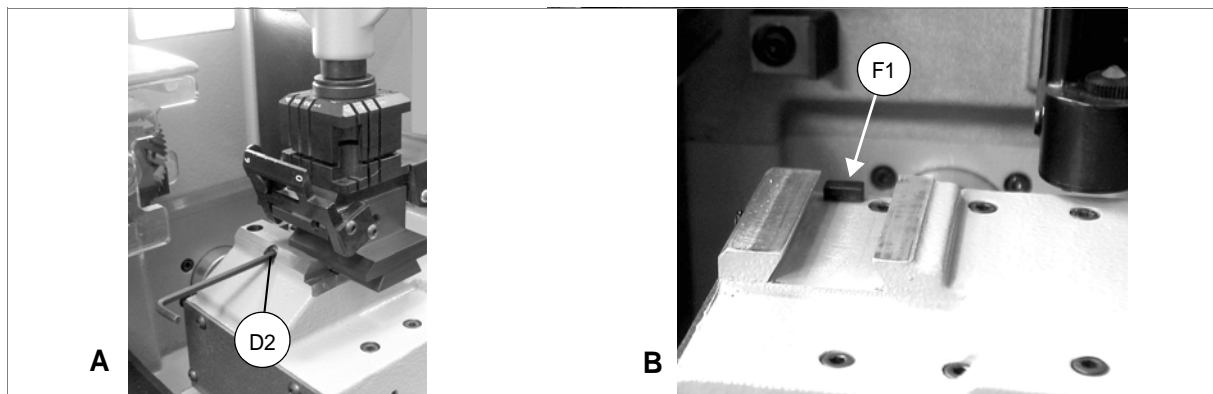

Fig. 5
- 4) loosen the grub screw (D2) (fig. 5-A) and remove the clamp;
- 5) install the feeder and take it up against the stop (F1) (fig. 5-B);